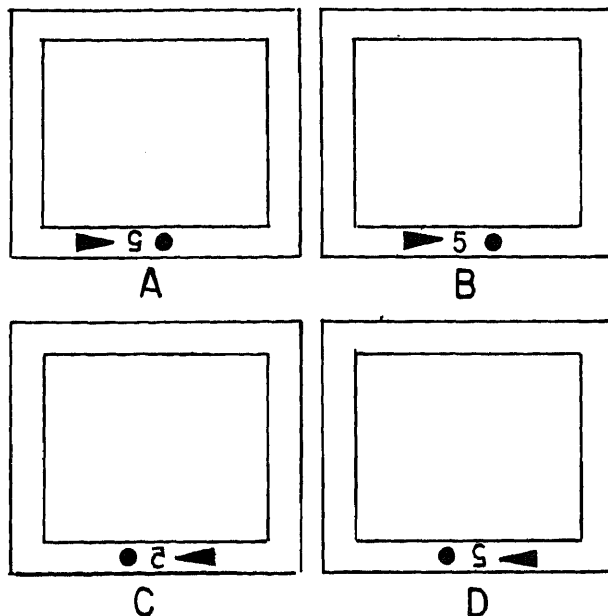

Figure 8A.--Kodak color rollfilm negatives.
- In answering question 8-56, refer to figure 8A.